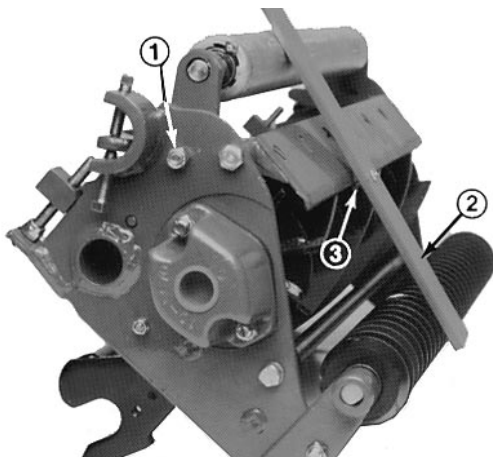

Figure 7
- Loosen the locknuts securing the height of cut brackets to each end of the cutting unit (Fig. 7).
- Place the bar across the front and rear rollers and adjust the tap bolt until the underside of the screw head engages the bedknife cutting edge (Fig. 7).